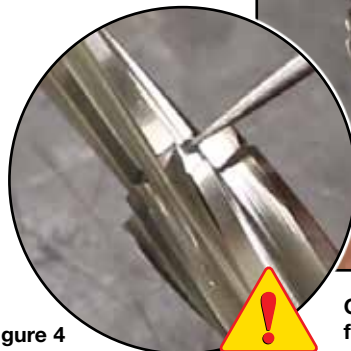

Figure 4
- Inspect the edge. If it's clean, keep going around the reamer, cleaning each cutting edge until all build-up is removed. Multi-diameter reamers can be cleaned the same way, just be sure to stay away from the guide nub (**Figure 4**). That is not a cutting edge.